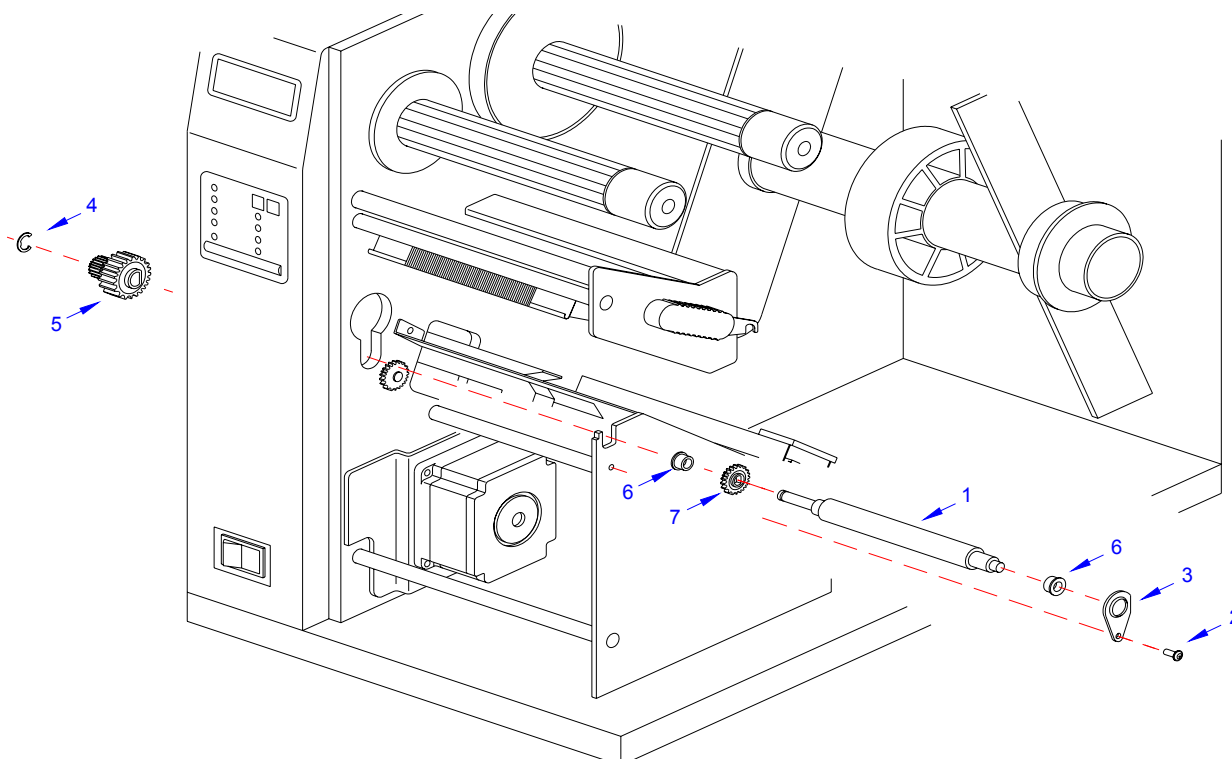

Figure 7-10, Platen Roller Replacement
- 3 Remove ribbon and media to provide free access to platen roller (1, Figure 7-10).
- 4 Loosen or remove screw (2) securing clamp (3) to right roller spindle.
- 5 Remove e-clip (4) and the outer belt (not shown) from the left roller spindle and pulley (5).
- 6 Withdraw pulley (5) from left platen roller spindle and inner belt (not shown).
- 8 Withdraw platen roller (1) along with left and right bushings (6) and gear (7) from the printer.
- 9 Assemble replacement roller as required with gear (7) and bushings (6).